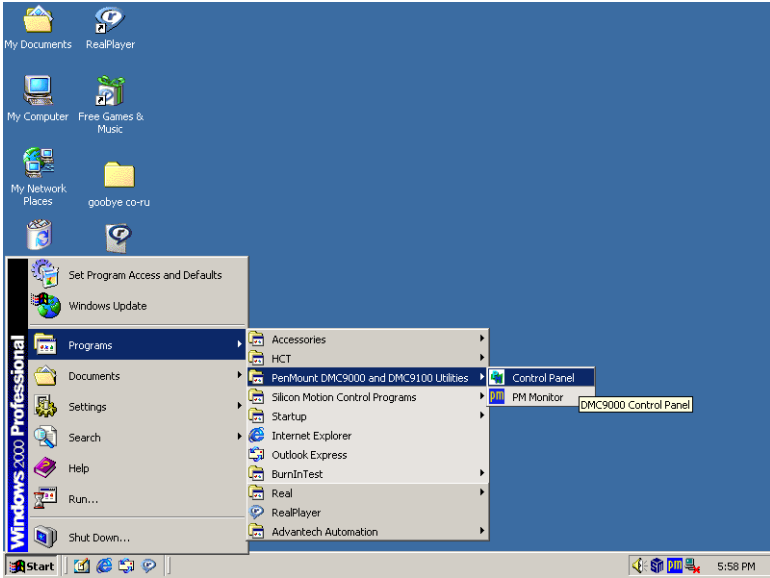

Figure 2.5: Touch Screen Calibration-1
- Step 6: Calibrate the touchscreen. Please go to “Start”, ”Programs”, †”PenMount DMC9000 Utilities”->”Control Panel” as shown in figure 2.5. Then, click the tab “Calibrate” to calibrate by selecting standard calibration or advanced calibration.